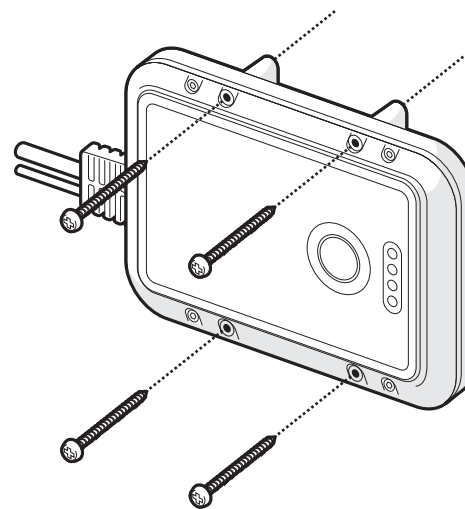

Figure 6 Mariner X2 mounting
- The product is supplied with four self tapping screws for attachment of the Mariner X2 to a suitable surface. Please refer to Figure 6 for guidance.